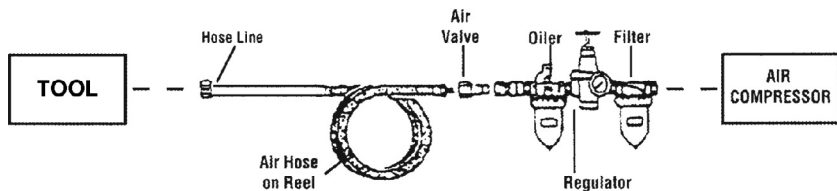

FIG. 1
**NOTE: To extend the life of your air equipment,** it is recommended to install an oiler and water filter in series with the Air Output Line of the Air Compressor (See Figure 1).